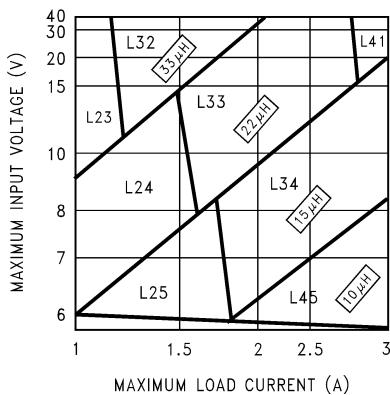

Figure 7-2. LM2676-3.3
Step 3: Use the nomograph for the 3.3-V device (Figure 7-2). The intersection of the 16-V horizontal line (V_{IN} max) and the 2.5-A vertical line (I_{LOAD} max) indicates that L33, a 22- μ H inductor, is required.